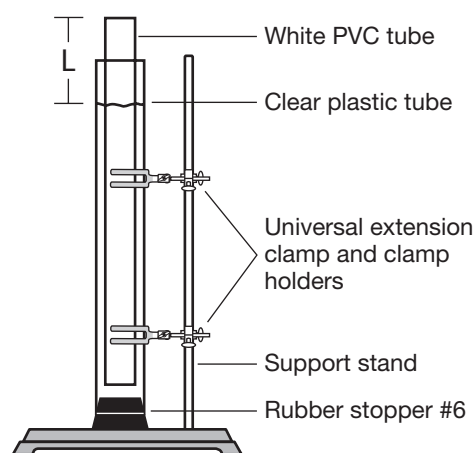

Figure 4.
3. Attach the clear plastic tube to the support stand using the universal extension clamps. See Figure 4. The rubber stopper should be resting on the base of the support stand.